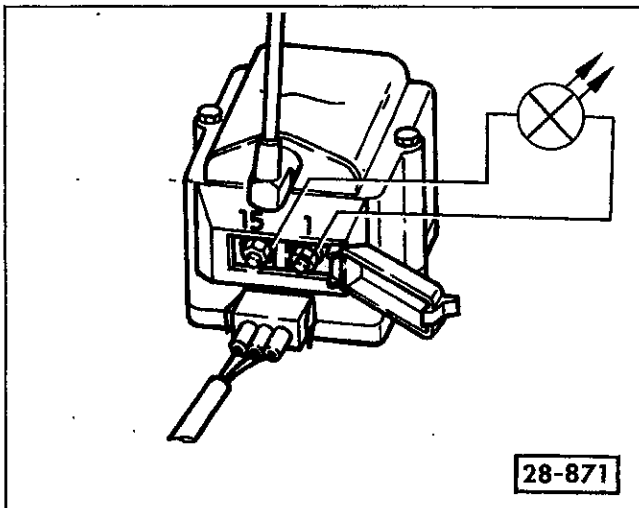

Fig. 5. LED test light (shown schematically) connected across coil terminals.
8. Pry back the cover from the coil terminals. Connect an LED test light across terminals 1 and 15. See Fig. 5.